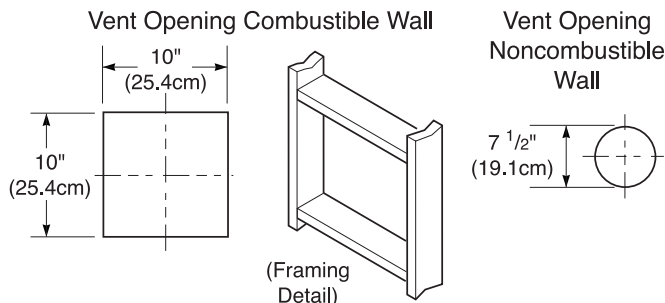
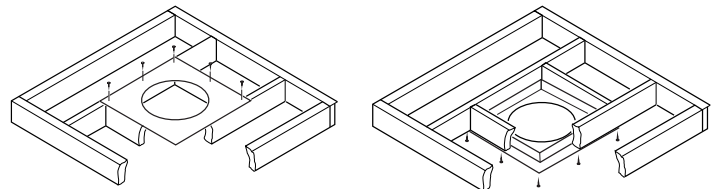

Figure 24 - Vent Opening Requirements
Figure 32 - Installing Firestop
For two-story applications, firestops are required at each floor level (see Figure 32, page 16). If an offset is needed in the attic, additional pipe and elbows will be required.
- Attach vent pipe assembly to the burner system. Set stove in front of it's permanent location to insure minimum clearances. Mark the wall for a 10" (25.4cm) square hole (for noncombustible material such as masonry block or concrete, a 7 1/2" (19.1cm) diameter hole is acceptable). See Figure 24. The center of the hole should line up with the center-line of the horizontal rigid vent pipe. Cut a 10"x10" (25.4cm x 25.4cm) square hole through combustible exterior wall (7 1/2" [19.1cm] diameter hole if noncombustible). Frame as necessary (see Figure 24).
1. Cut a 10" (25.4cm) square hole in the ceiling using the locating hole as a center point. The opening should be framed to 10"x10" (25.4cm x 25.4cm) inside dimensions, as shown in Figure 24 on page 14 using framing lumber the same size as the ceiling joists. If the area above the ceiling is an insulated ceiling or a room, nail firestop from the top side. This prevents loose insulation from falling into the required clearance space. Otherwise, install firestop below the framed hole. The firestop should be installed with no less than three nails per side (see Figure 32).
3. Cut a hole in the roof using the locating hole as a center point. (Cover any exposed open vent pipes before cutting hole in roof.) The 10"x10" (25.4cm x 25.4cm) hole must be measured on the horizontal; actual length may be larger depending on the pitch of the roof. There must be a 1" clearance from the vent pipe to combustible materials. Frame the opening as shown in Figure 24 on page 14.